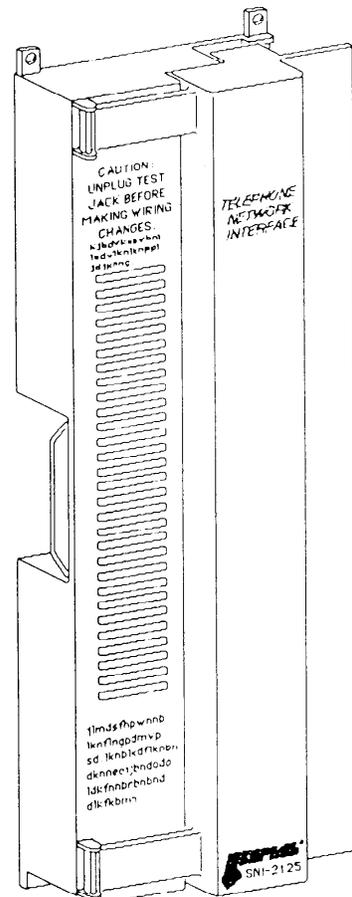

Fig. 1—SNI-2125 outside view
1.03 The Keptel SNI-2125 N.I.D. unit (Figure 1) provides a discrete and recognizable demarcation point mandated by local commission rulings or business strategies facilitating a physical separation between Telco network facilities and customer or vendor premise wire. It also provides the means for a customer or vendor quick test for a provisioned circuit.